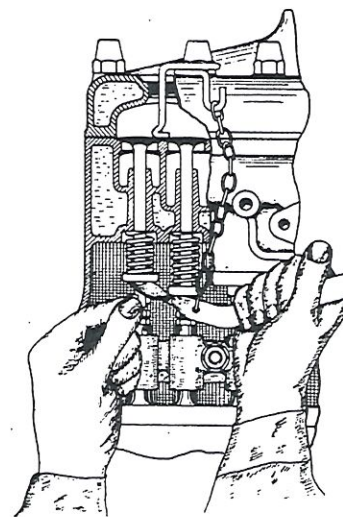
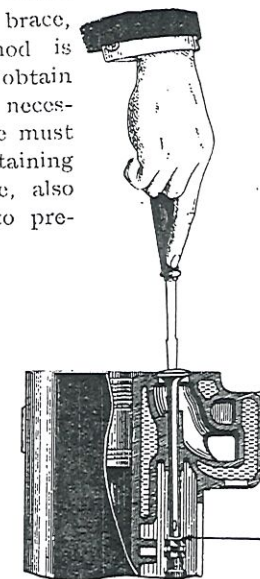

FIG. 7.
FIG. 8.
c) Removal and adjustment of valves. — After long usage the valve seats may become pitted. In this case they must be carefully ground in. The removal of the valves and their springs is necessary to perform this operation. To facilitate the removal proceed as indicated in figure 7, using the special tools provided in each tool kit for this purpose. When the springs are removed proceed to grind in the valves, using for this purpose a mixture of very fine emery powder and oil. This operation must be effected with a screwdriver as illustrated in figure 8 and never with a hand brace, as that method is too coarse to obtain an even seating. If for any reason it has been necessary to remove the tappet cover, special care must be taken when replacing, to see that the oil retaining joint behind the cover is properly in place, also that the securing nuts are well tightened to prevent any leakage of oil.